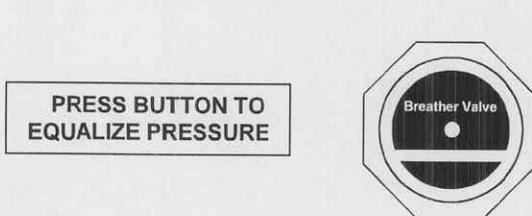

Figure 1-16. Pressure relief valve label.
(8) A label (located on the front side of the shipping case next to the pressure relief valve) is depicted in figure 1-16.